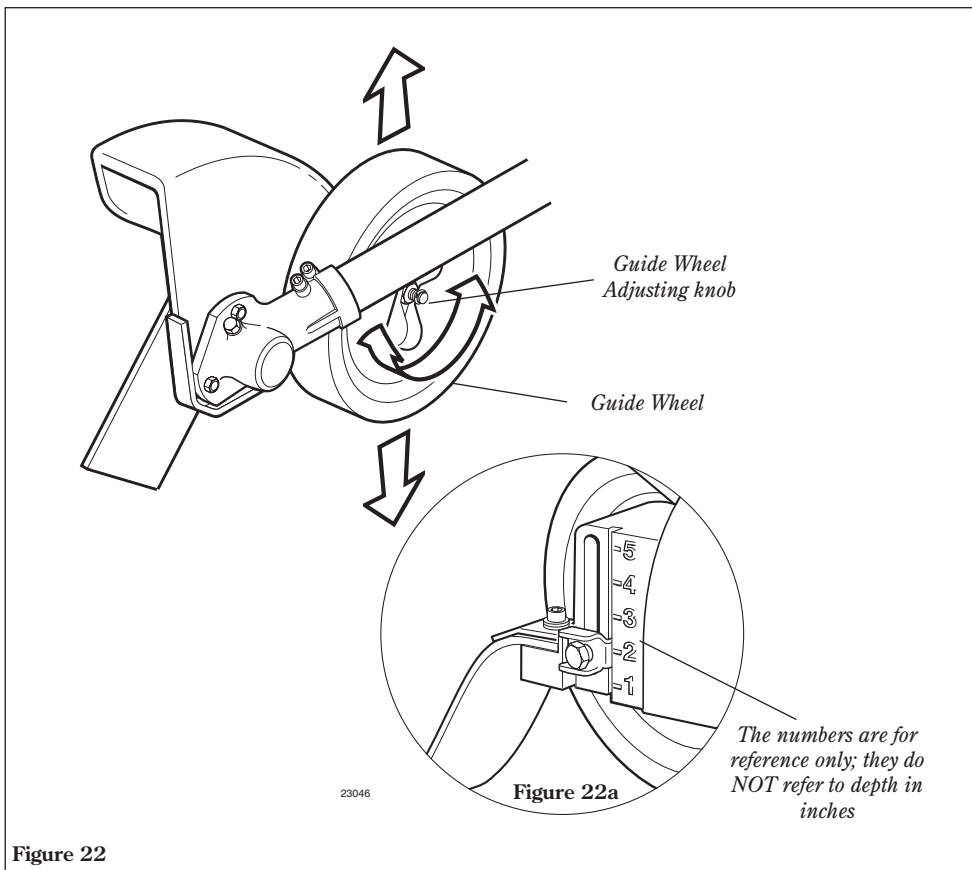

Figure 22
1. Loosen the guide wheel adjusting knob. See Figure 22.
3. Tighten the guide wheel adjusting knob firmly. See Figure 22.